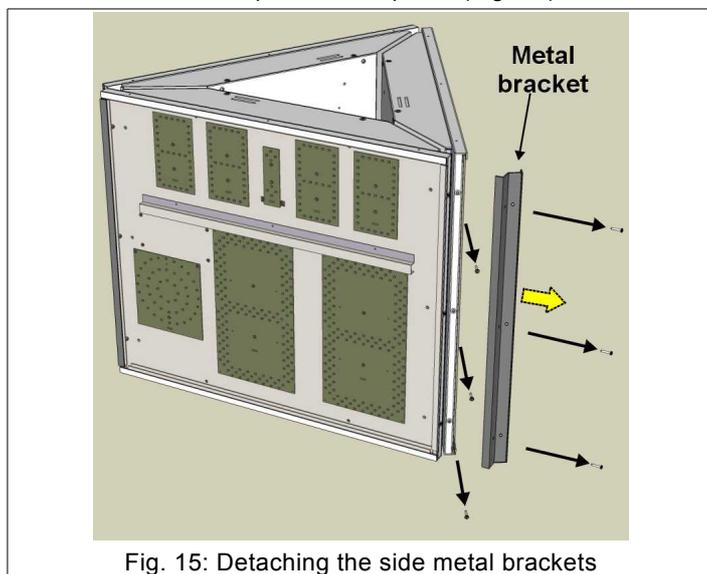

Fig. 15: Detaching the side metal brackets
2. In the module containing the control board in need of replacement, detach both side metal brackets joining the modules by removing the screws with a Phillips screwdriver (Fig. 15).